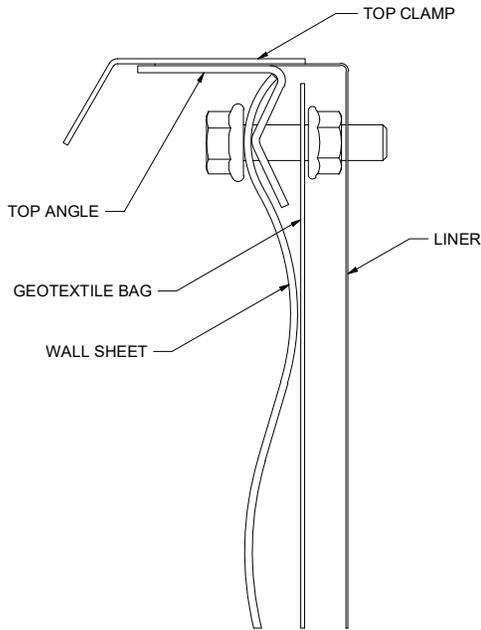

Fig 24 - Cross-section of open-top liner installation
1. Bolt anchor chairs at the wall sheet vertical seams with 3/8 x 1-1/2" bolts and nuts. See Figure 24.